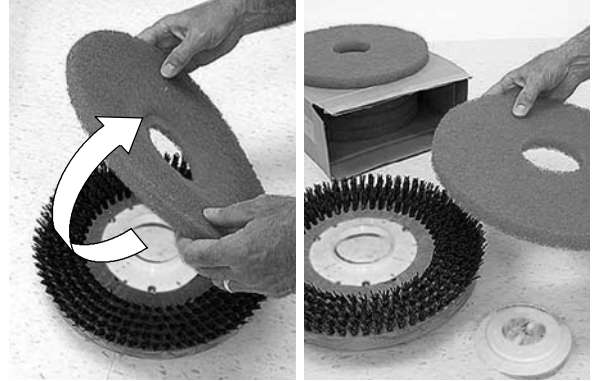

FIG. 47
- Rotate pad or replace when worn (Figure 47).